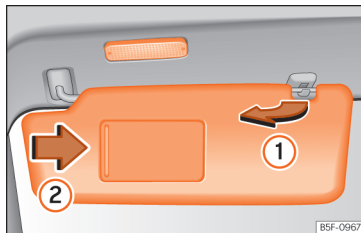

Fig. 116 Sun visor
- The sun visor can be pulled out of its mounting and turned towards the door »» Fig. 116 ①.